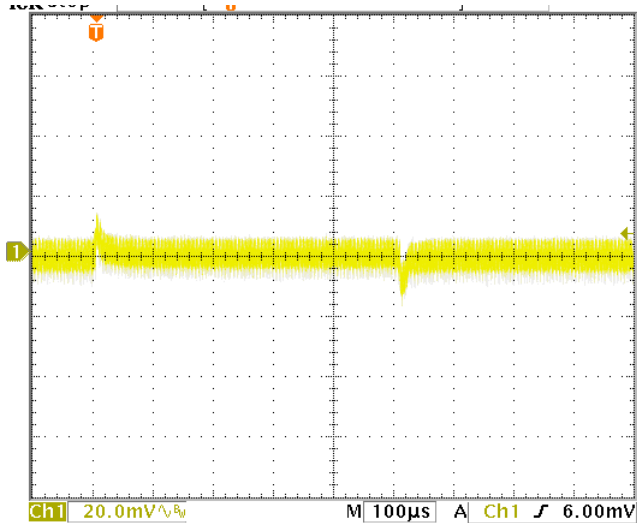

FIGURE 1. Transient response at $24V_{IN}$, with I_{OUT} switching from full load to 1/2 full load to full load.
- 1: Measured with C1=50µF (See Fig 1)
a signal Schotky diode with the cathode connected to the SYNC pin and the anode to $-V_{IN}$ (See Figure 1). AC coupling reduces the power required for driving multiple converters and allows for continuous operation of the other synchronized converters in case the driving signal is missing or a short circuit develops at one of the sync inputs.